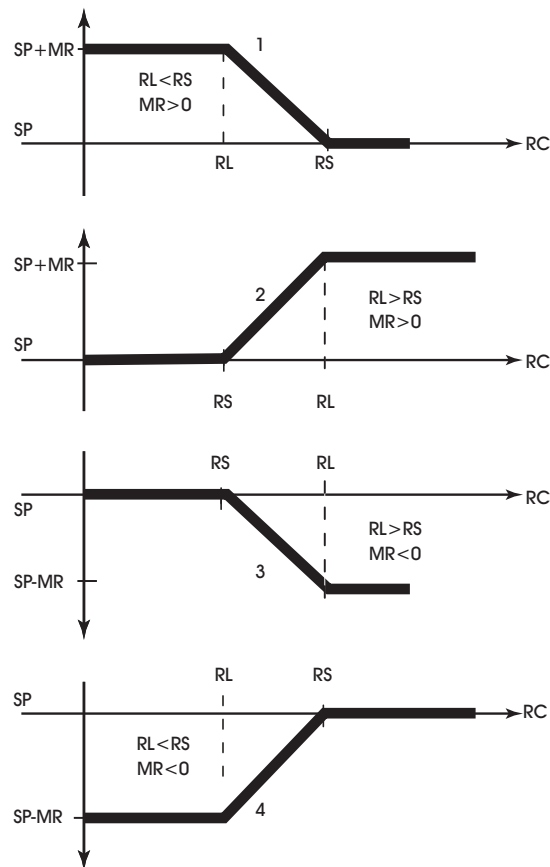

Figure 7-4: Four Forms of Reset Action
The relationship between **(RL) Reset Limit** and **(RS) Reset Setpoint**, as well as the sign (+ or -) of **(MR) Maximum Amount to Reset Setpoint**, determines how changes in the reset variable specified by **(RC) Reset Channel** and **(RA) Reset Attribute** affect the calculated control setpoint **(CS) Calculated Control Setpoint**. Refer to Figure 7-4.
The relationship between **(RL) Reset Limit** and **(RS) Reset Setpoint**, as well as the sign (+ or -) of **MR**, determines how changes in the reset variable specified by **(RC) Reset Variable** and **(RA) Reset Attribute** affect the calculated control setpoint (**CS) Calculated Control Setpoint**. Refer to Figure 7-4. In the illustrations, references to **(SP) Loop Setpoint** generically refer to your currently used scheduled setpoint.